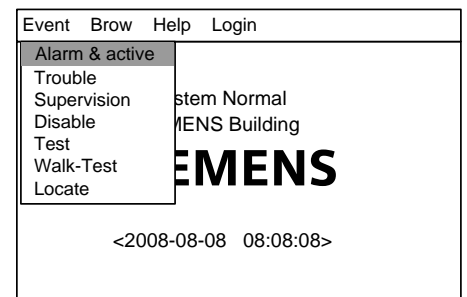

Fig. 9-1
1. Press "Menu" to browse the main menu. (Fig. 9-1)